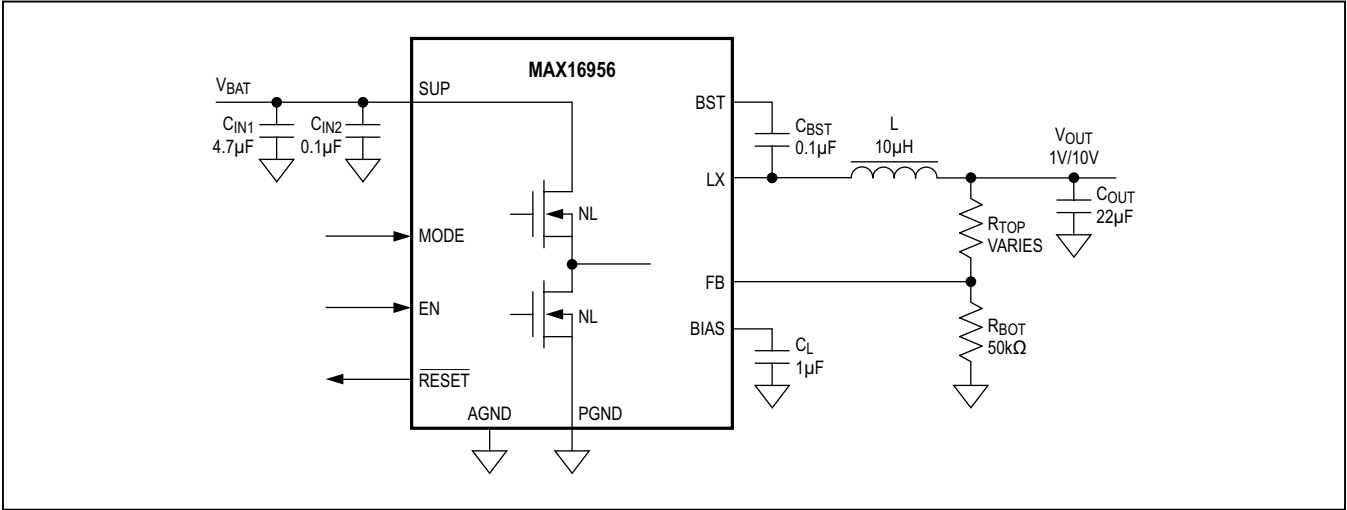

Figure 3. MAX16956AUBC/V+, Variable Output Voltage, 10-Pin µMAX
- 1) The input capacitor (4.7 μ F, see Figures 3 and 4) should be placed immediately next to the SUP pin of the device. Since the device operates at 2.1MHz switching frequency, this placement is critical for effective decoupling of high-frequency noise from the SUP pin.